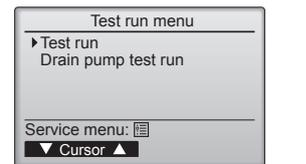

Fig. 7-2
- ② Select "Test run" from the Test run menu, and press the [SELECT] button. (Fig. 7-2)
- ③ The test run operation starts, and the Test run operation screen is displayed.
### 7.3. Self-check (Fig. 7-2)